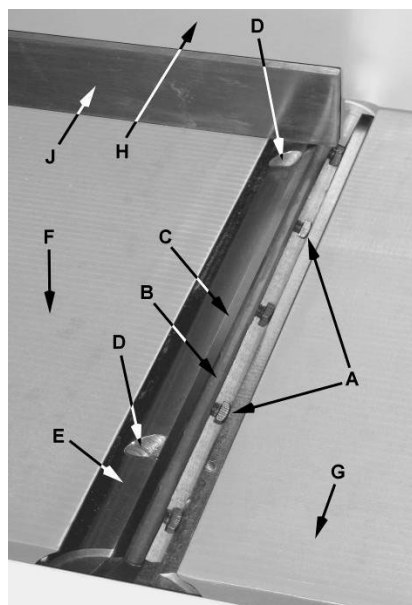

Figure 11
Refer to Figures 11 and 12:
5. Set a *straightedge* (J) on the *outfeed table* (F) near the *fence* (H). One end of the straight-edge should be positioned over the *cutting knife* (C) near the end of the blade as shown in Fig. 11.